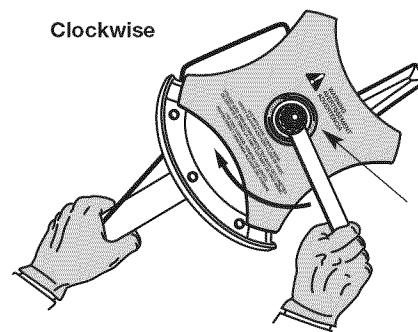

Fig. 14
2. Hold the locking rod in place by grasping it next to the boom of the unit (Fig. 14).
3. While holding the locking rod, loosen the nut on the blade by turning it **clockwise** with a 13 mm closed-end or socket wrench (Fig. 14).